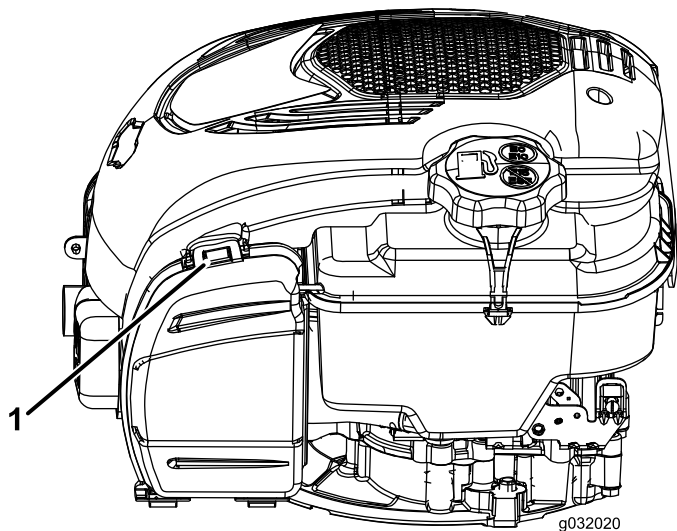

Figure 25
1. Pull the tab to open the air-filter cover (Figure 25).